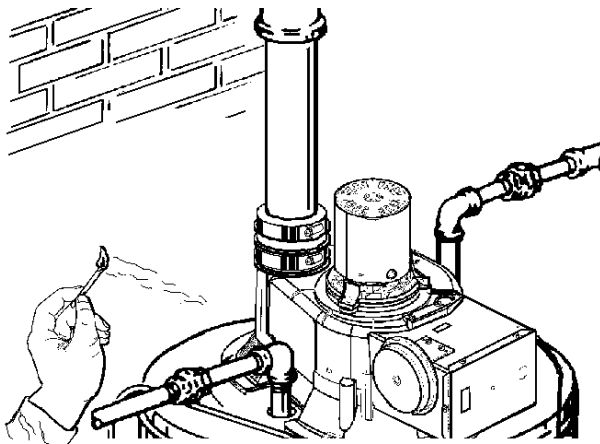

FIGURE 11
- C. "CHECKING THE DRAFT." Operate the water heater for several minutes and check to see if it is venting properly by passing a lit match or paper near the opening of the Air Supply Box. If the draft is proper, the match flame will be drawn into the Air Supply Box (fig 11). If not, the combustion products will tend to extinguish the flame. If an improper draft exists, do not operate the water heater until proper adjustments or repairs are made to provide adequate draft through the gas vent.